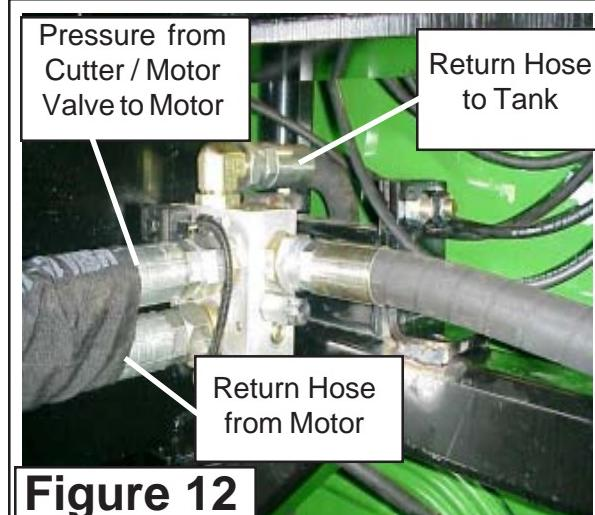

Figure 12
2. Connect Pressure Hoses. There are two pressure hoses that connect to the Pump. The Larger Hose (**See Figure 10 & 11**) runs through a weld on Hose Ring and to the Cutter Motor Control Valve (**See Figure 12**). The Small Hose runs to the Cyl. Control Valve. Connect the smaller hose to the pump and route with the larger hose.
4. Connect Hose from Cutter Valve to Motor. The Hose from the Cutter / Motor Control Valve runs down the Boom using Steel lines and Hoses (**See Figure 12**)
5. Connect Return Hose from Motor to Cutter / Motor Control Valve. Connect the hose from the Motor return to the Cutter / Motor Control Valve (**See Figure 12**).
6. Return Hose from Cutter Valve to Tank. Connect the return hose from the Cutter / Motor Control valve to the Tank. (**See Figure 12**). This hose will run down under tractor to the left side. (**See Figure 13**) and then back up the LH side to the Tank. (**See Figure 14**). The return hose connects to the return Filter Housing (**See Figure 15**).